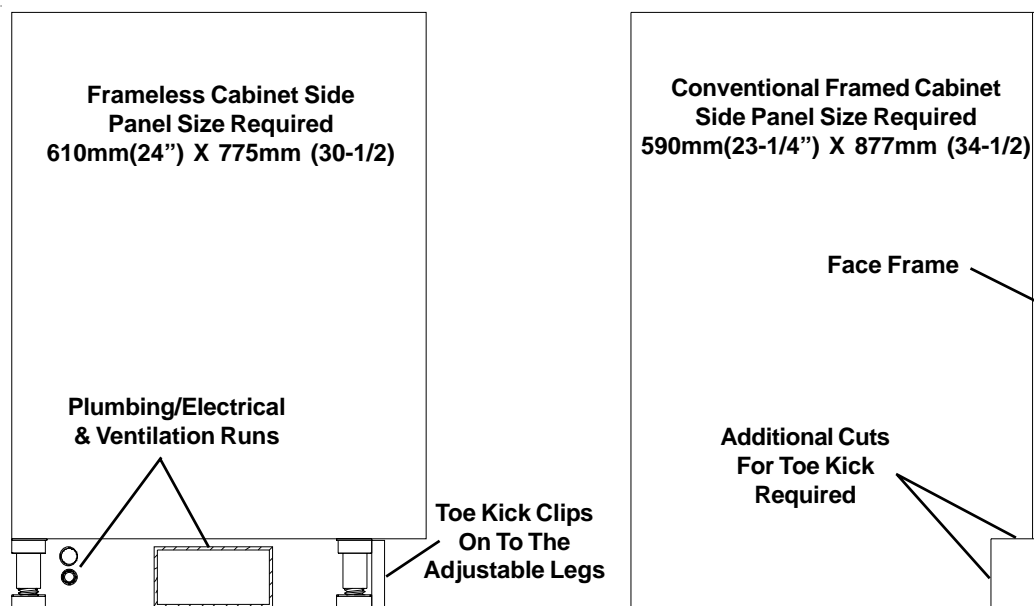

Figure 1
- Allows easy access for electrical, plumbing, gas and ventilation runs without needing to cut holes and notches into the cabinets as shown in Figure 1.
- The Toe Kick Plate is independent making it easier to make and install as shown in Figure 1.
- Greater yield of cabinet side panels from a standard sheet of material since the Toe Kick is eliminated as shown in Figure 1.
- Frameless cabinet side panels require fewer cuts verses conventional framed cabinets, which reduces material waste, and time needed to cut the panels as shown in Figure 1.